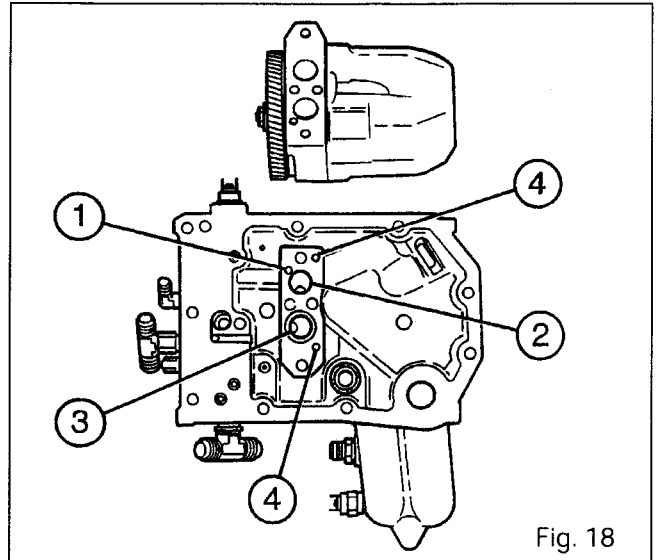

Fig. 18
26. Check that the locating dowels (4) are in place (Fig. 18).
27. Replace the O-rings (1) to (3) (Fig. 18).